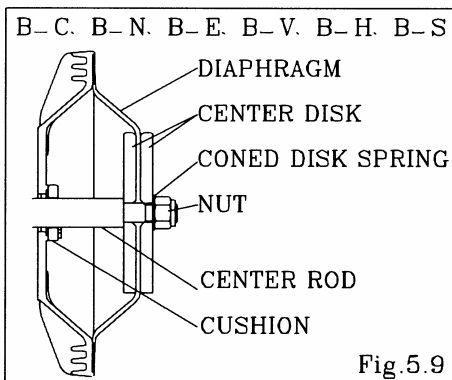

Fig.5.9
- Fix a double nut to one end of the center rod and take the diaphragm and center disk off the opposite end. [Fig.5.9] Be careful not to scratch or score the center rod.
- Insert the cushion (except with the NDP-80). (cf. Fig.5.9)
- Draw the center disk to one side (exclude B\_H, B\_S type cf. Fig. 5.9).